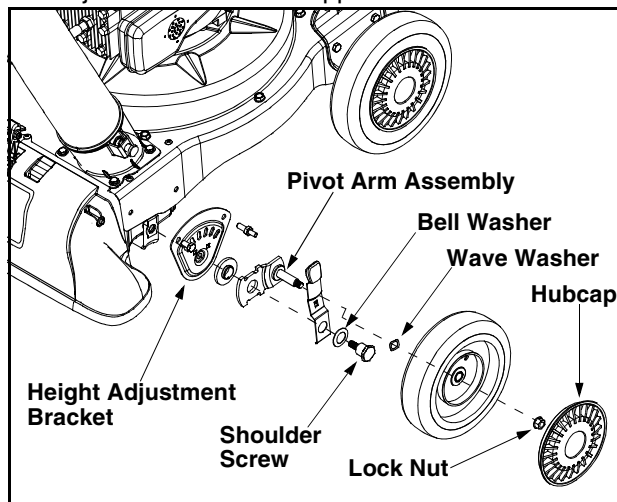

Figure 17
- Remove the front hubcaps, lock nuts, front wheels, and wave washers that attach to the pivot arm assemblies. See Figure 17.